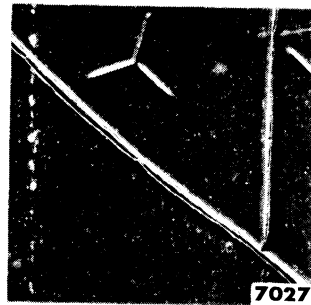

Fig. 33—Cracking
(13) **CRACKING.** This is evidenced by the paint curling up in areas. Frequently this starts at the edge of a panel (fig. 33). *Use repair procedure (1).*